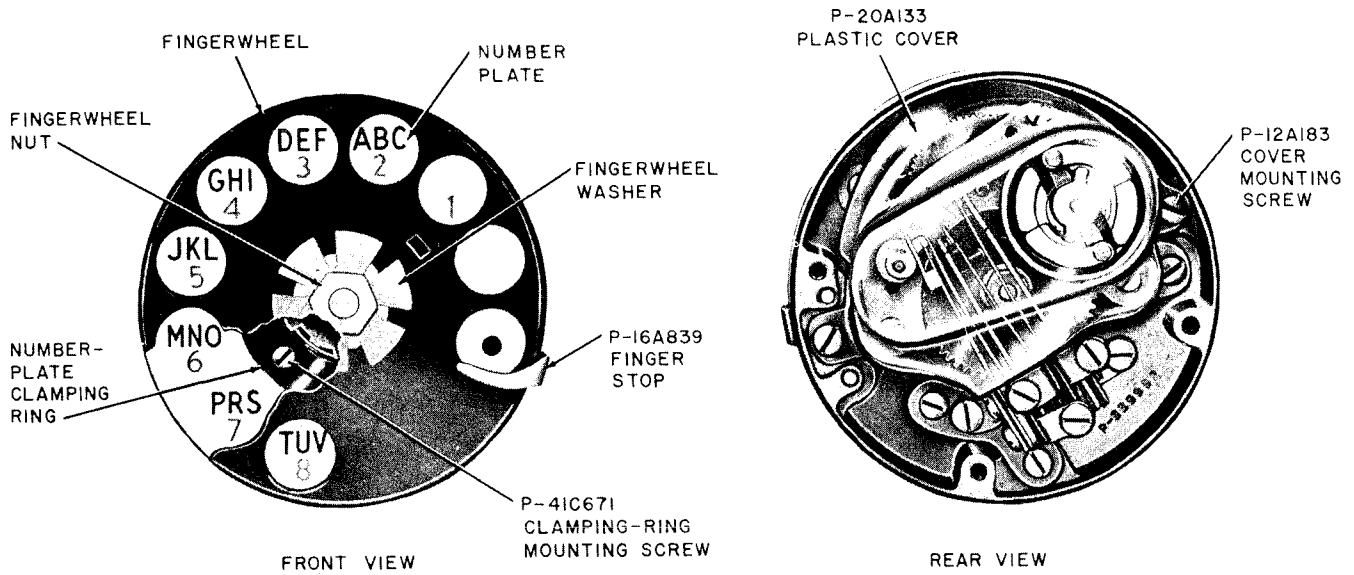

Fig. 4 - 6-Type Dial
2.03 See Tables C and D and Fig. 4 for usage and assembly of parts.